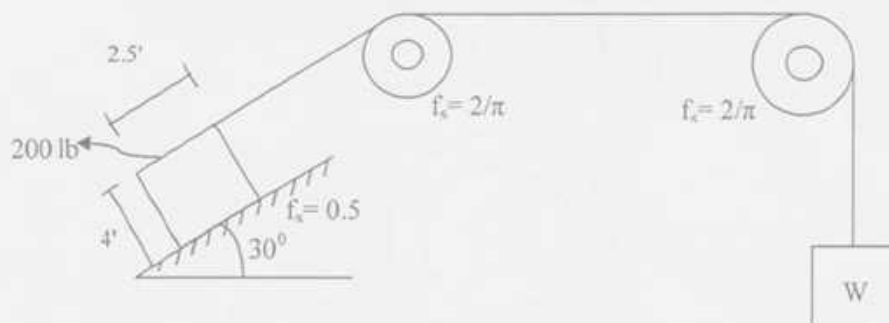

Figure 5
5. Determine the minimum load W that can be supported by the system shown in Figure 5.